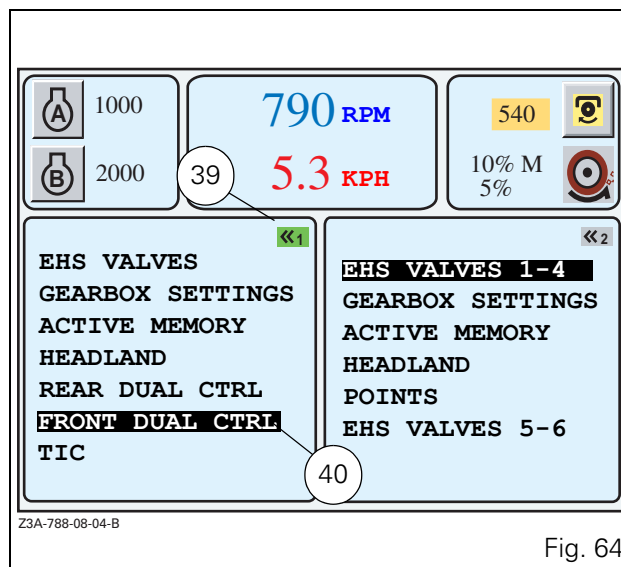

Fig. 64
FRONT DUAL CTRL menu displayed in the left-hand window only (Fig. 64):
- To display this menu, press key <<1 twice. The first press selects the window and the second press displays the list if no application was activated previously. The active application is indicated by the green icon at the top right-hand of the window (39 Fig. 64), and on b/w screens the active window is indicated by the same icon in reverse video.
- To select the FRONT DUAL CTRL menu, select the application using the encoder. The selected application is displayed in a black frame (40 Fig. 64).
- Pressing the key «6 switches the DUAL to ON or OFF when the window is active (green icon 39 Fig. 64).